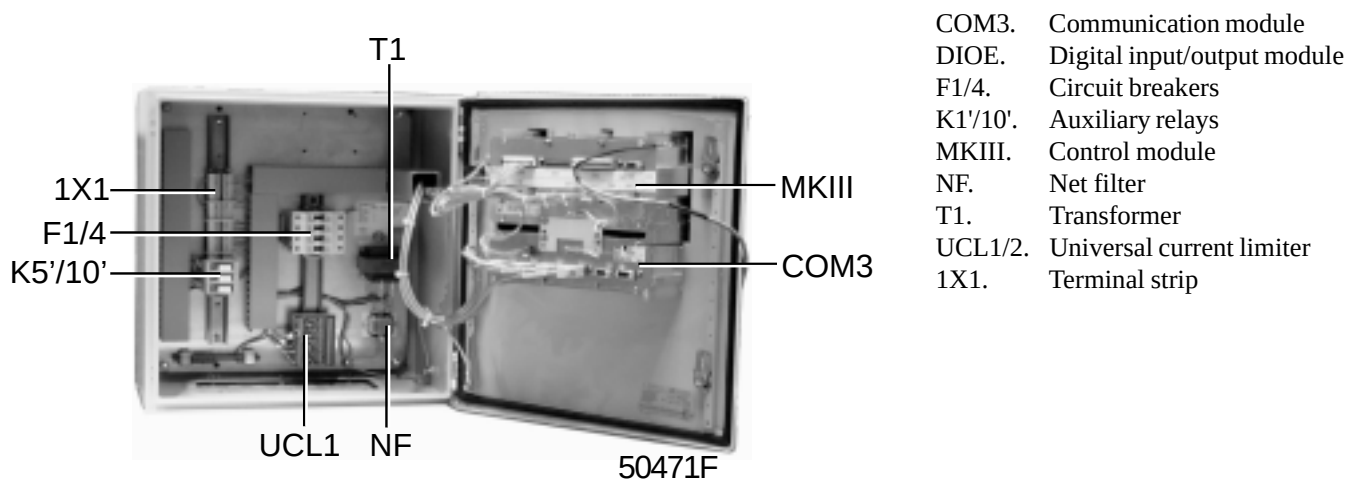

Fig. 1.1. ES100 with communication module (COM3)
- ES100 with a communication module (COM3-Fig. 1.1), allows a combination of maximum 4 Elektronikon-regulated compressors and 3 relay-regulated compressors (Product number 8104 0114 01)
The sequence selector comprises (Figs. 1.1, 1.2 and 1.3):